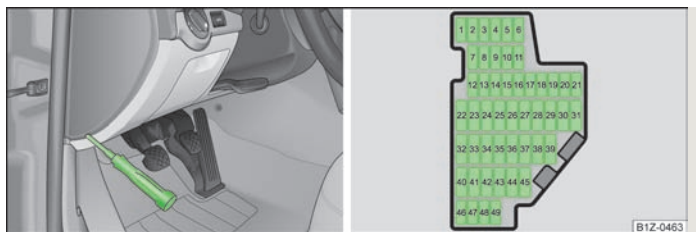

Fig. 161 Fuse box cover in the dash panel/schematic diagram of the fuse box
- Remove the cover for the fuse box using a screwdriver » Fig. 161.